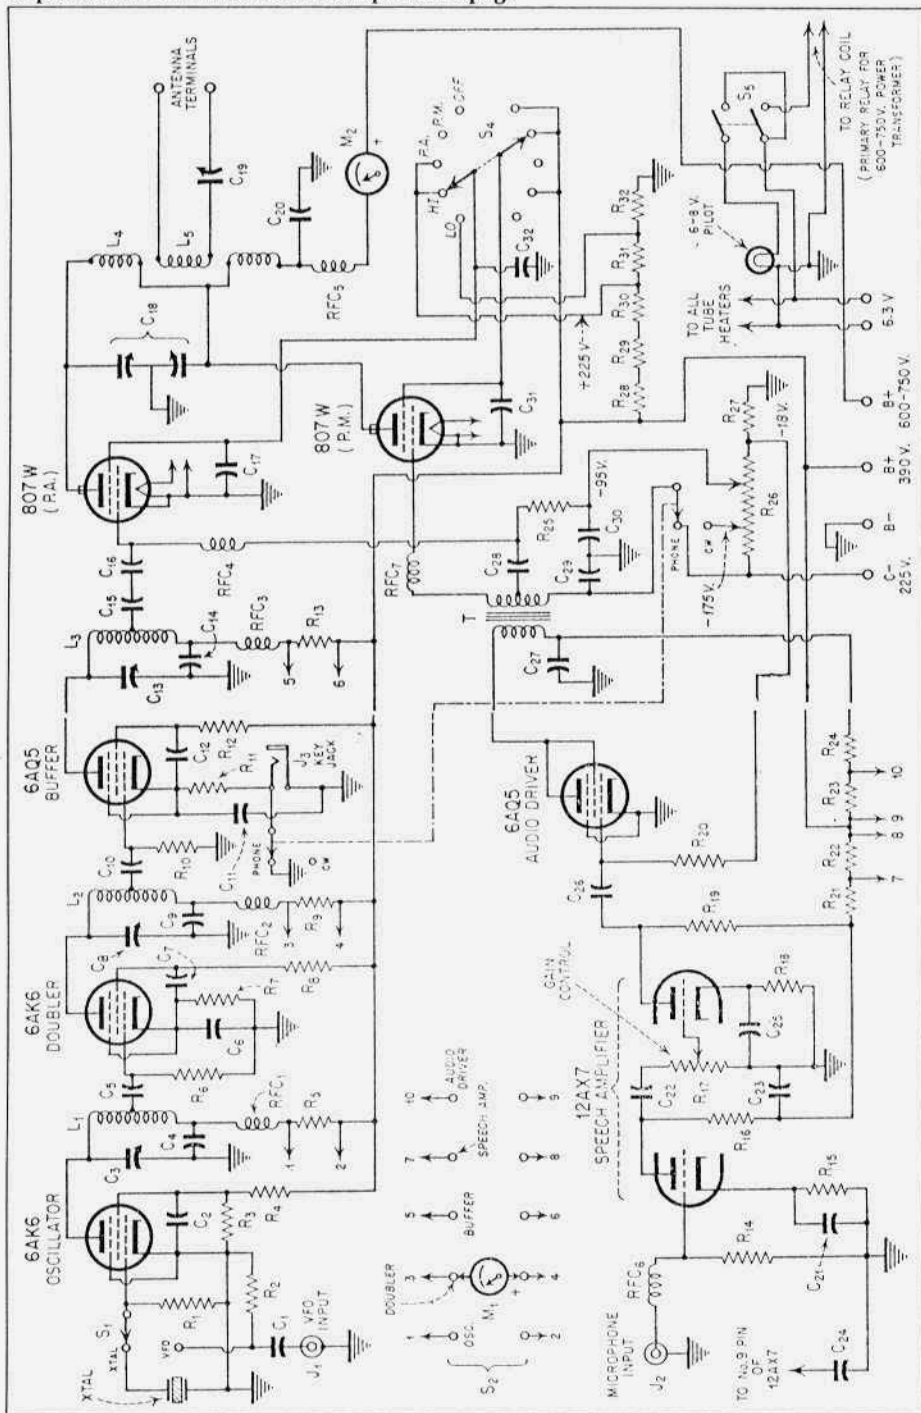

FIG. 3. Complete circuit of the Supermodulated Transmitter.
The present transmitter employs a pair of 807W tubes in the PA and PM positions in the final amplifier. These improved tubes are unusually free from parasitics and are much smaller in size than the standard 807. The complete circuit diagram appears in Figure 3.
Maximum input power on both c.w. and phone is 150 watts. The final amplifier input power may be reduced to 100 watts, when desired, by the flip of a switch (S(4) in Figure 3). This reduces input for both c. w. and phone. On phone, the available sideband power is unaffected when carrier power is reduced. Power reduction results from a decrease of screen voltage of the 807W PA tube when switch S(4) is thrown to its LO position.
Previous supermodulated transmitter circuits have employed shunt feed to the PA plate and series feed to the PM plate. Some confusion has resulted from that arrangement. An examination of Figure 3 will show that series feed is used on both 807Ws in this circuit. When switch S(4) is in its PA position, the screen of tube PM is disconnected from the voltage supply and tube PM is rendered inoperative. Meter M(2) then reads PA plate current only. Conversely, when S(4) is in its PM position, screen voltage is removed from tube PA which accordingly is put out of operation, and
The builder must adhere religiously to the rule of making one solid ground connection to chassis in each stage. Return all grounds in a given stage to this one point, and later connect all of the separate stage-grounds together by means of a length of No. 12 solid wire. The 807W screens must be bypassed separately, each at its own socket, by means of C(17) and C(31). The third screen bypass capacitor, C(32), is connected halfway along the length of the lead between switch S(4) and the screen of the PA 807W. One side of the 807W heater is grounded at each socket, as shown in Figure 3.
resistance d.c. voltmeter, set the sliders on resistors R(26) to give -175 v. and -95 v., respectively, between slider and ground, as indicated in Figure 3. The preliminary adjustment of the bias voltages now is completed. Final adjustment must be made, as will be explained later, after the final amplifier has been tuned.
modulation is taking place and indicates that steps 3 to 6 have not been performed correctly. (8) The final amplifier plate currents may be checked separately with switch S(4) in its PA or PM position as required. At 750 v., unmodulated PM plate current will be approximately 30 ma.; unmodulated PA plate current 100 ma. Under modulation, a slight decrease in PA plate current and a large increase in PM plate current will take place. (9) With switch S(4) in its HI position and the transmitter in operation, make final adjustment of the sliders on resistor R(26) to bring the bias voltage values to the exact -175 v. and -95 v. levels indicated in Figure 3. USE MORE THAN ORDINARY CARE WHEN MAKING THESE ADJUSTMENTS TO PREVENT HARMFUL ELECTRIC SHOCK! (10) With switch S(4) in its HI position and the transmitter operating into the lamp load, check modulation percentage and speech quality by any one of the usual well-known methods. (11) Repeat the entire procedure (except bias voltage adjustment) with the 20-meter crystal and 10-meter coils. (12) Substitute the antenna for the lamp load and repeat transmitter tuning. A 0-1.5 or 0-2 thermocouple ammeter (or a lamp connected temporarily in series with one of the ANTENNA terminals and the transmission line) will serve as an output indicator when tuning C(18) and swinging L(5) in and out of the tank coil.
PARTS LIST FOR FIGURE 3